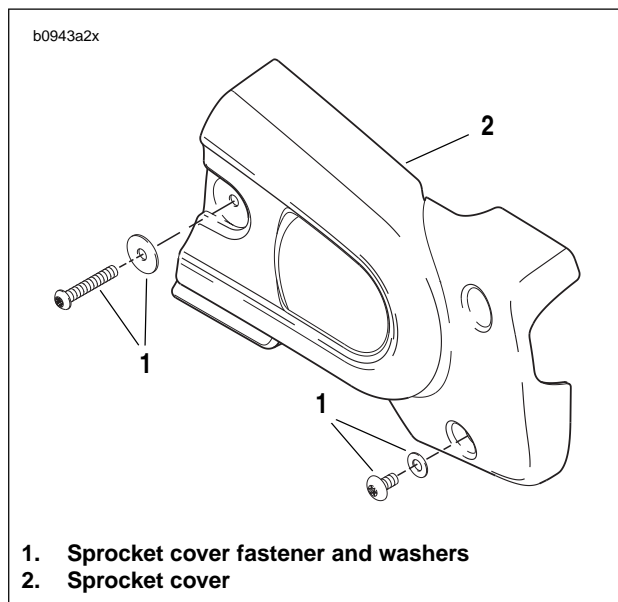
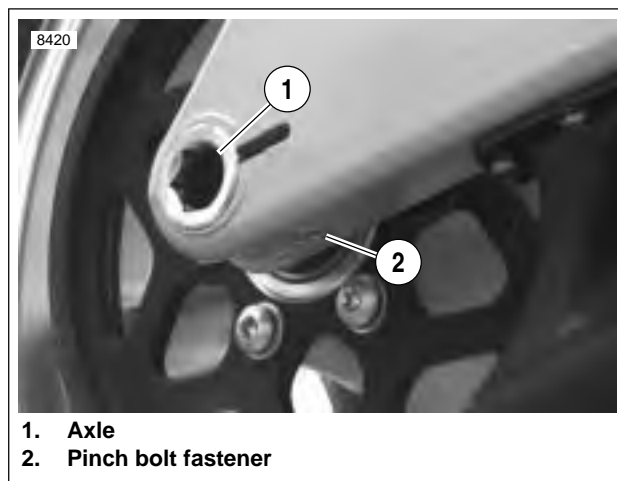

Figure 6-40. Sprocket Cover
Figure 6-41. Rear Wheel Mounting, Right Side
4. See Figure 6-40. Remove front sprocket cover (5) by removing fasteners. See 2.33 SPROCKET COVER.
5. See Figure 6-41. Loosen rear axle pinch fastener (2).
6. Loosen rear axle (1) approximately 15 rotations to allow partial tension to be removed from rear drive system.
8. See Figure 6-41. Tighten rear axle (1) to 23-27 ft-lbs (31.2-36.6 Nm), back off two full turns and then retighten to 48-52 ft-lbs (65.1-70.5 Nm).
9. Tighten rear axle pinch fastener (2) to 40-45 ft-lbs (54-61 Nm).
10. See Figure 6-40. Install front sprocket cover (2) by tightening fasteners to 12-36 in-lbs (1-4 Nm). See 2.33 SPROCKET COVER.